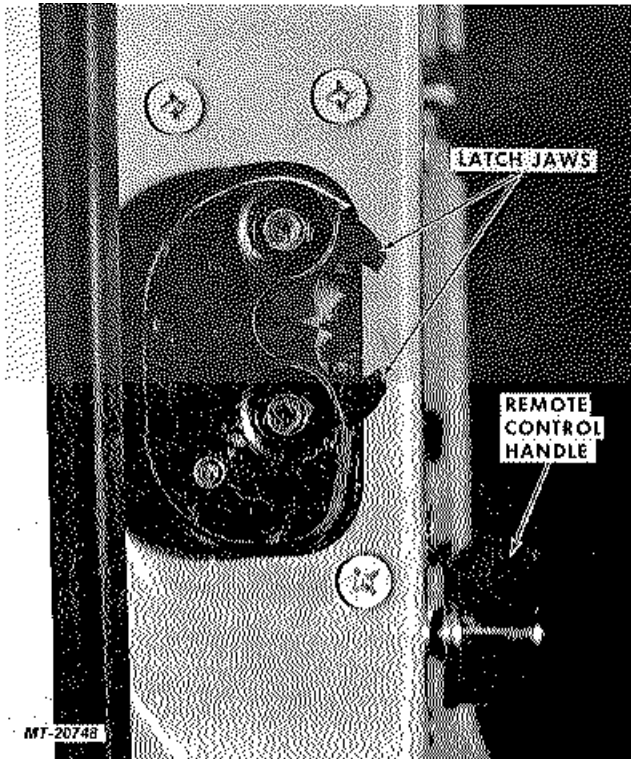
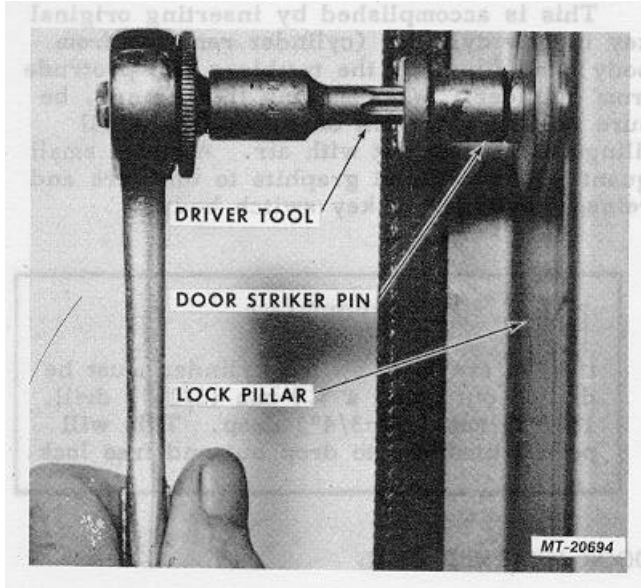

Fig. 20 Door Latch Assembly
Fig. 26. Removing or Installing Door Striker Pin
Door striker pin (Fig. 26) mounted on lock pillar provides for positive engagement with the door latch assembly (Fig. 20). Striker pin removal and installation requires a special driver tool. Enlarged mounting hole in lock pillar permits adjustment.
2. Adjustment at Lock Pillar (Fig. 26)